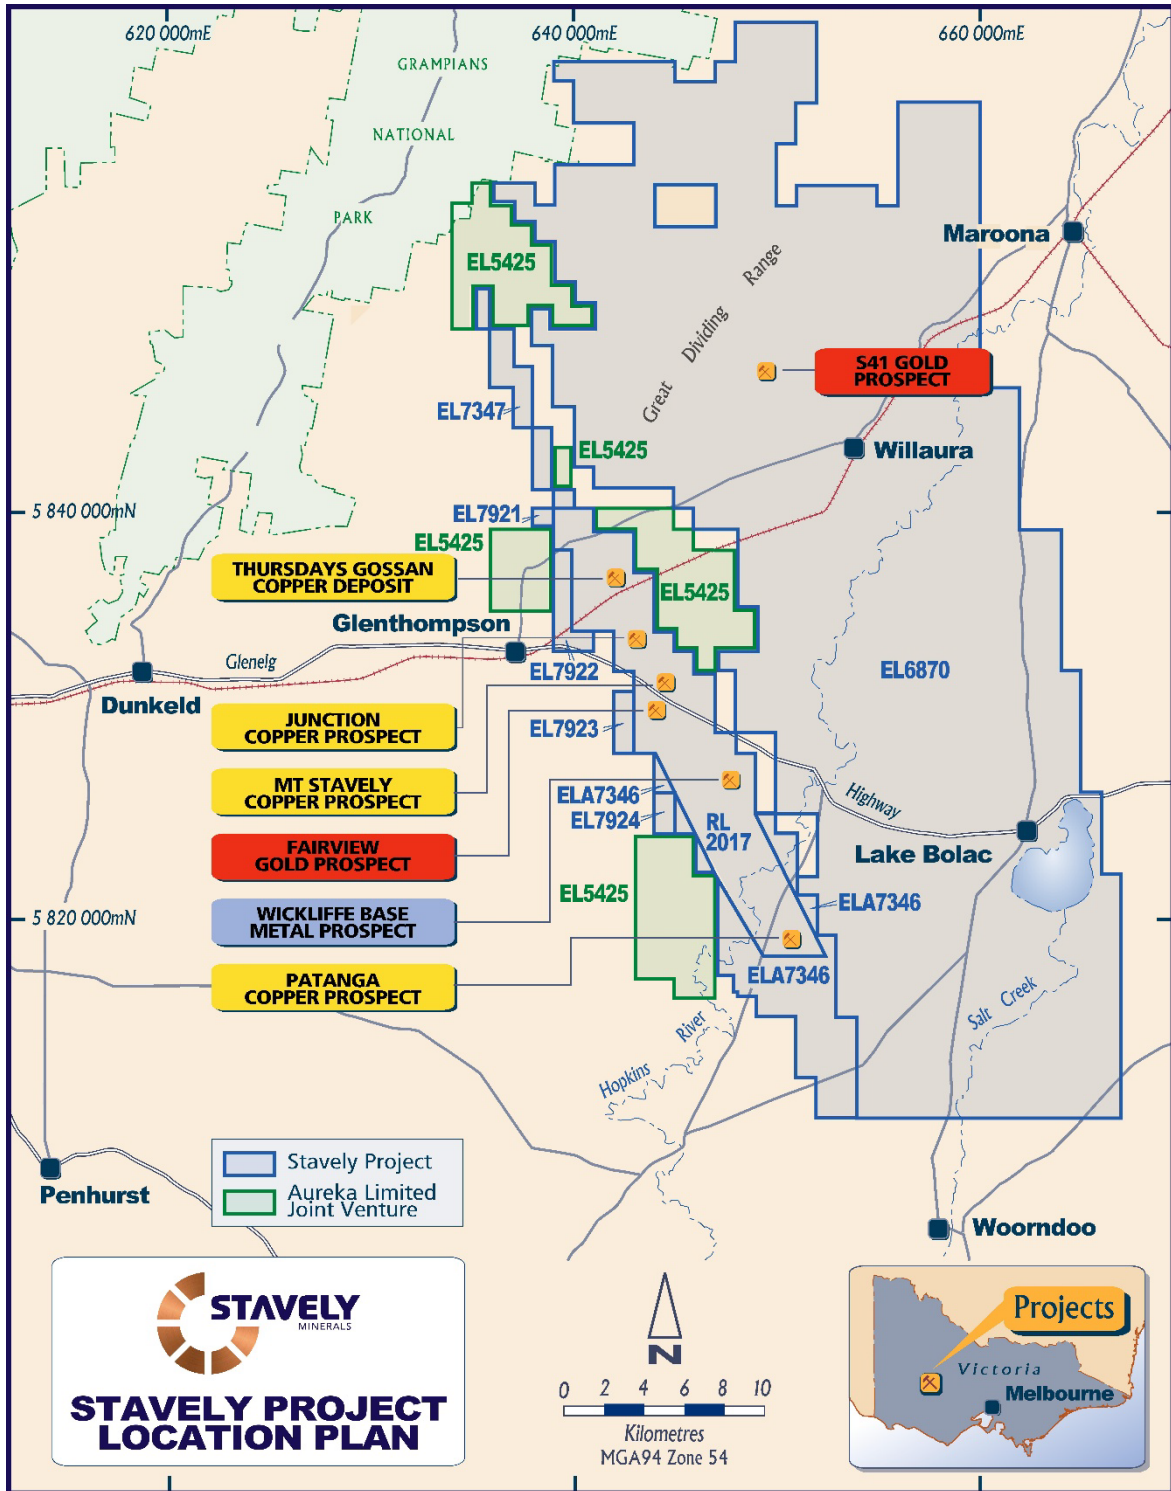

Figure 1. Stavely Project and prospect location map.
Stavely Minerals Limited (ASX Code: **SVY** – “Stavely Minerals”) is pleased to advise that it has successfully completed a second phase of gold-focused Reverse Circulation (RC) drilling at the Fairview North prospect, part of its 100%-owned **Stavely Copper-Gold Project** in western Victoria (Figures 1 & 2).